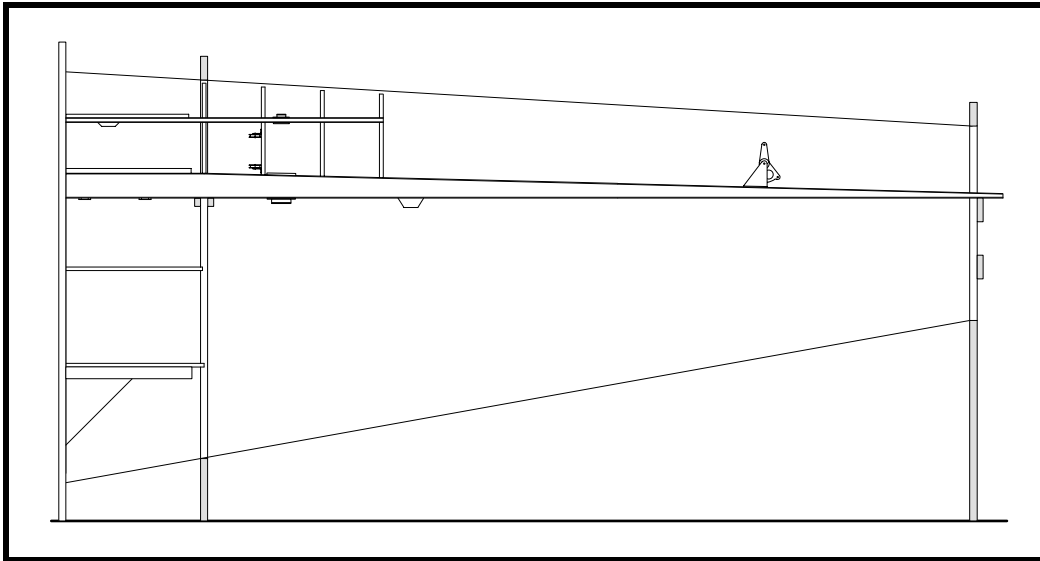

Figure 7
- ❑ Clamp the leading edge ribs for Sta. 1, 2, 3 and 4 in place as shown in Figure 7. Sand the aft faces of the ribs as necessary for alignment with the leading edge alignment string.